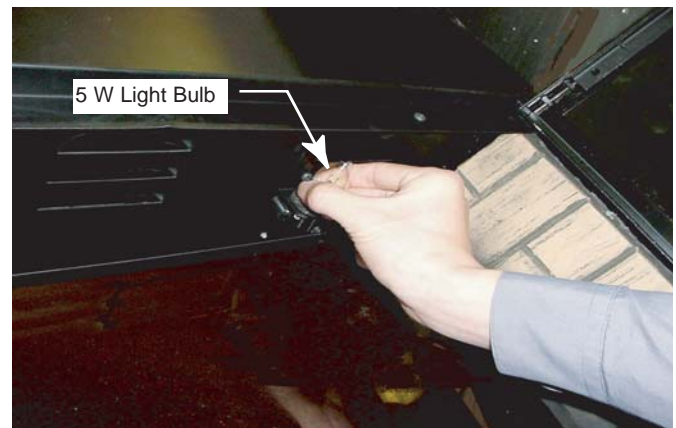

Fig. 9 Remove and replace 5 W bulb(s).
Depending on your model, the fireplace uses two (2) or three (3) clear 120 Volt, 60 Watt, E-12 socket base light bulbs (small base, chandelier candle type) located under the ember bed. Units with overhead lights (Fig. 9) use two (2) clear 120 Volt, 5 Watt, E-12 socket base light bulbs (small base, chandelier candle type) located above the logs. For convenience, if one of the light bulbs burns out, it may be easier to replace all of the light bulbs at the same time.